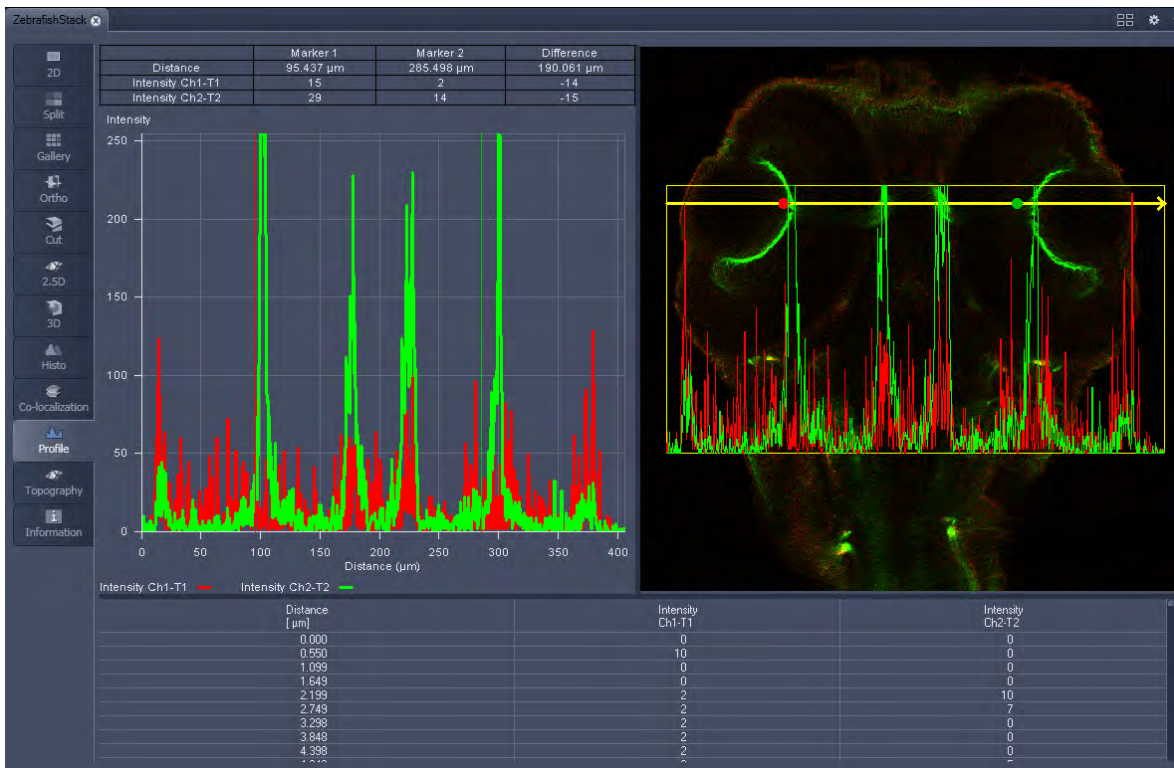

Fig. 225 Image Display - Profile View, Profile displayed in Image
- Tick the **Profile in Image Display** block to see an intensity graph superimposed on the image (see Fig. 225).